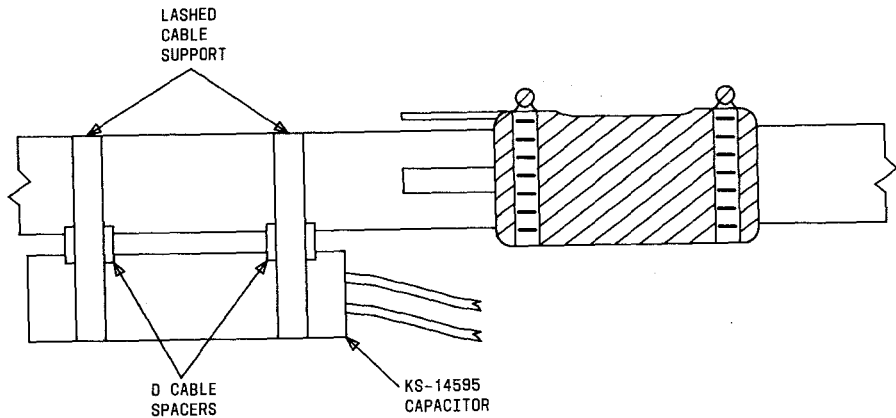

Fig. 11—Capacitor Mounted
- (a) Mount the capacitor on the insulating joint with B lashed cable supports and D cable spacers as shown in Fig. 11.